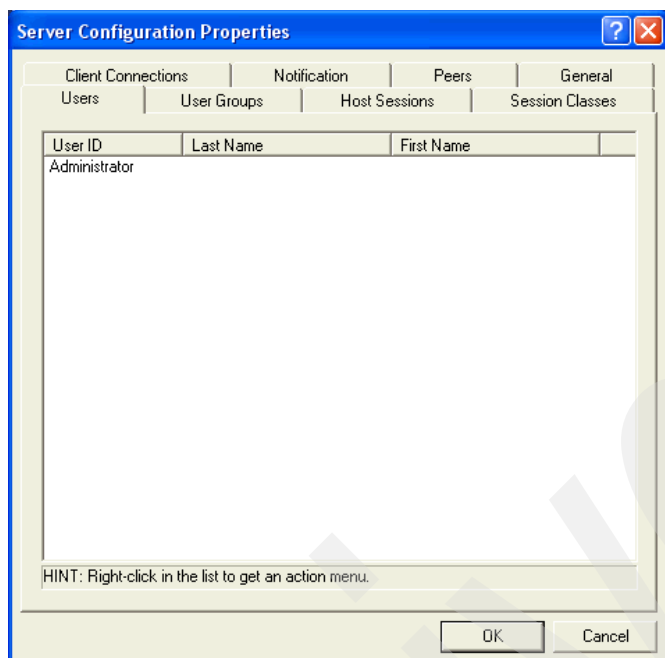

Figure F-3 Server configuration properties
5. The Server Configuration Properties panel is displayed (see Figure F-3). Click the **General** tab.